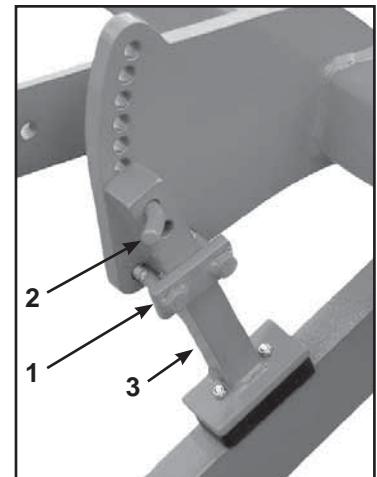

Fig 1
- b Loosen the M12 nyloc nuts on the clamp plate assembly (1).
- c Remove the R clip and pin (2).
- d Adjust the wheel retraction stop (3).
- e Refit the pin, R clip and retighten the nyloc nuts. Refer Fig 1.